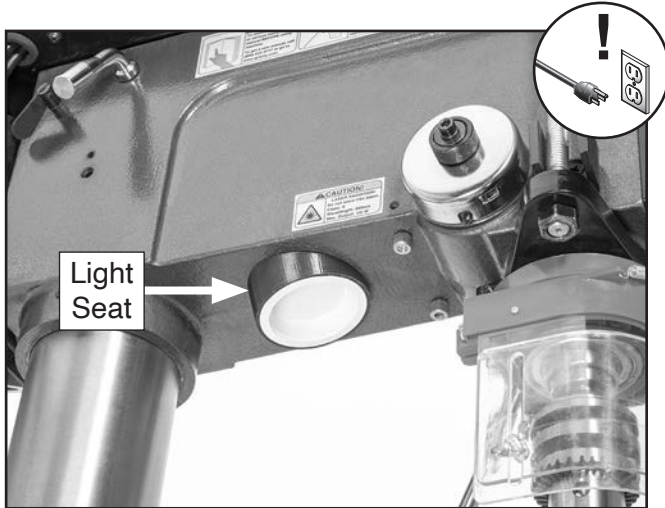

Figure 64. Location of light seat.
2. Turn light seat counterclockwise to release seat and pull it down through headstock hole (see **Figure 64**).